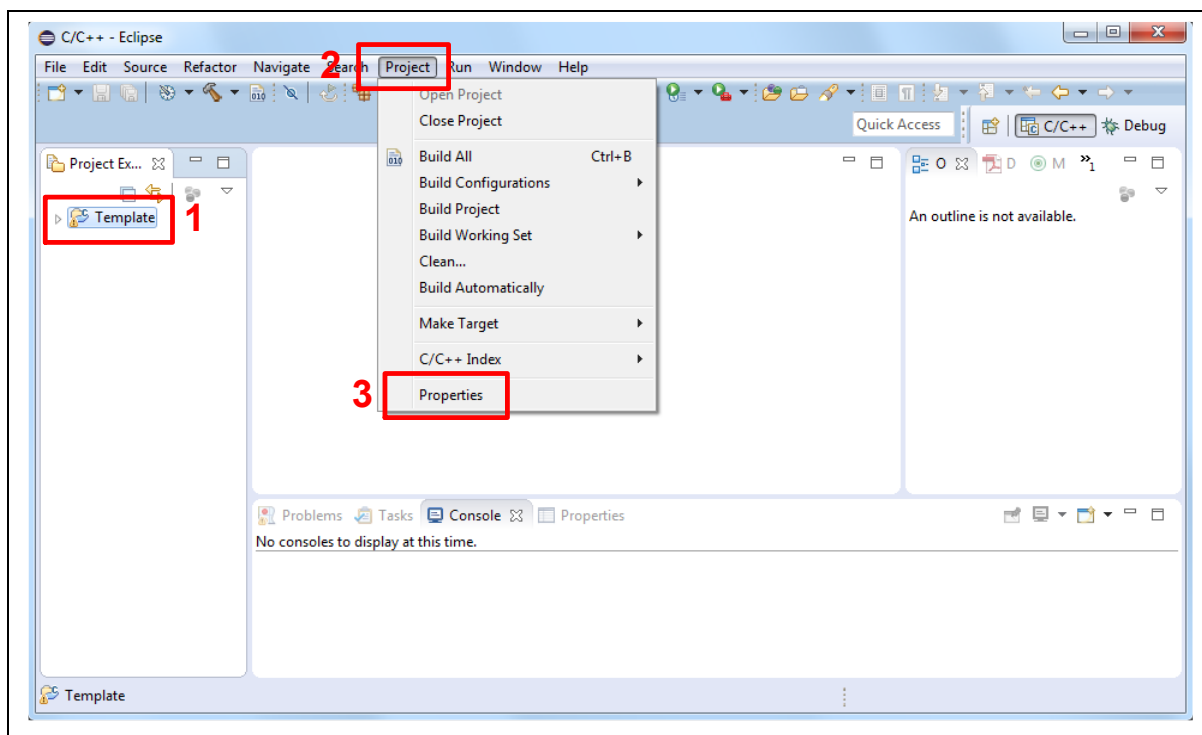
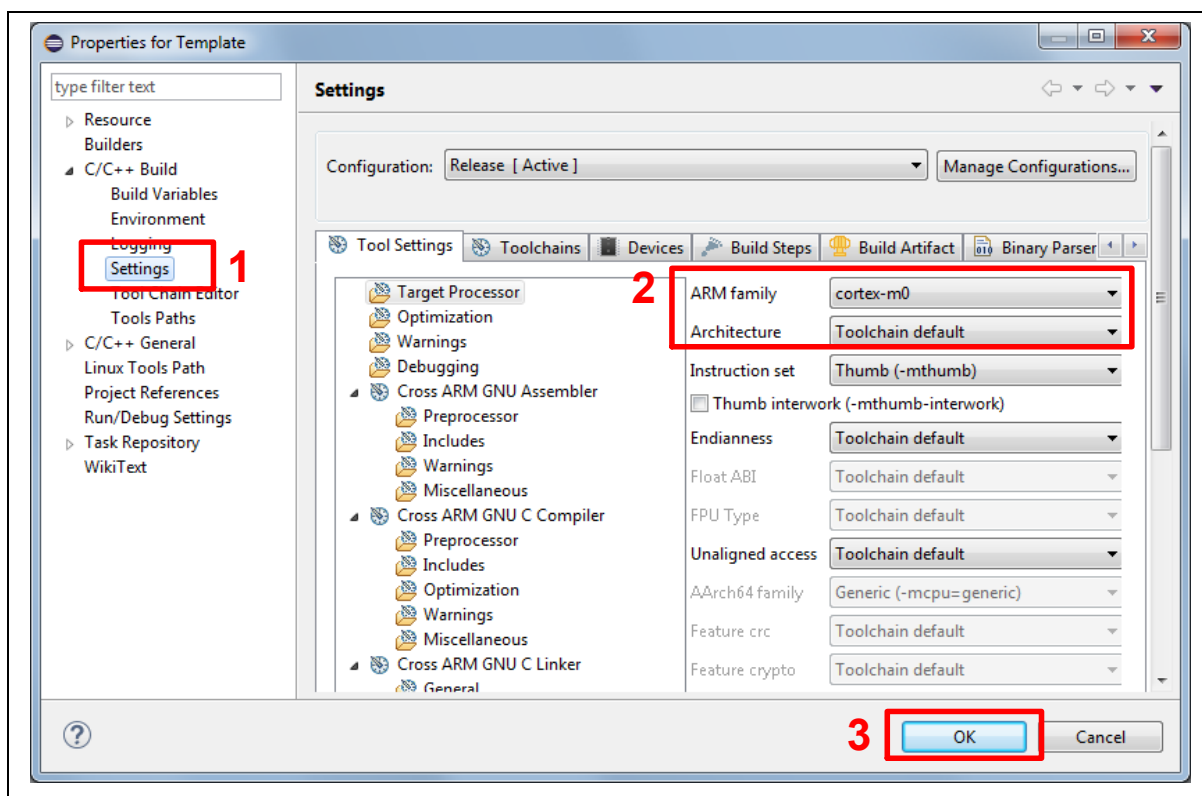

Figure 4-21 Open Project Properties Window
Figure 4-22 Project Properties Settings
- Click the “Template” project and find the project properties as shown in Figure 4-21. Make sure the settings are the same as settings in Figure 4-22.